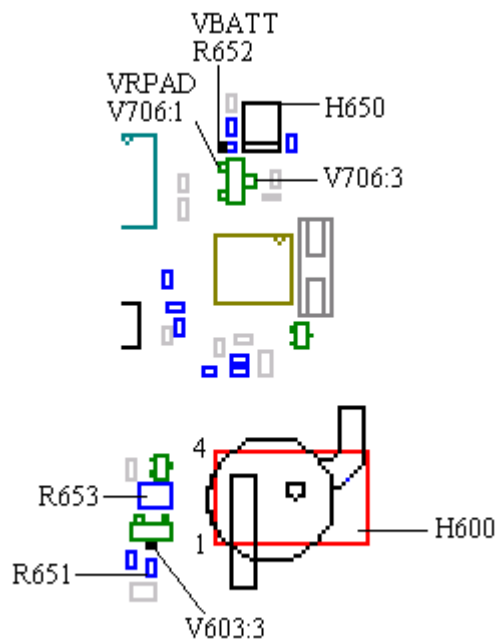
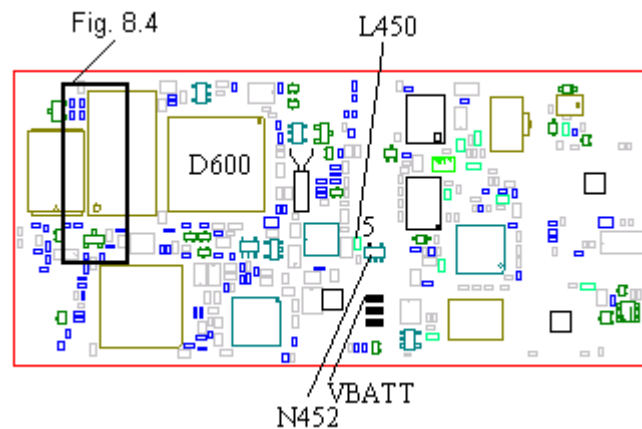

Fig. 8.2
Fig. 8.3
Make sure the buzzer (H600, class A, fig. 8.2) is correctly soldered.
Measure the voltage at H600 pad 4 (~3.4V, fig. 8.2).
- If the voltage at H600 pad 4 is missing, measure the VRPAD voltage (~3.8V) at V706 pin 1 (class A, fig. 8.2).
* If the voltage at V706 pin 1 is missing, check if there's VRPAD voltage at N452 pin 5 (fig. 8.3).
- * If the resistance is too high it’s probably the L450 (~0 ohms, class A, fig. 8.3) that’s faulty.
- * If the VRPAD voltage at V706 is correct, measure the resistance from VBATT to V706 pin 3 (~4.7 ohms, fig. 8.3 and 8.2).
- * If the resistance is too high it’s probably R652 (~4.7 ohms, class A, fig. 8.2) that’s faulty.
- If the voltage at pad 4 of H600 is correct, measure the resistance from H600 pad 1 to V606 pin 3 (~0 ohms, fig. 8.2).
- * If the resistance is too high it’s probably R653 (~0 ohms, class A, fig. 8.2) that’s faulty.
- * If the resistance is correct, make sure pin 91 of D600 (fig. 8.3) is correctly soldered.
- * If it is correctly soldered, replace R651 (class A, fig. 8.3) and V606 (class A, fig. 8.2).
- * If that doesn’t help, replace D600 (class B, fig. 8.3).
- * If the voltage is missing, make sure pin 92 of D600 (fig. 8.3) is correctly soldered.
Make sure the double LED (H650, class A, fig. 8.2) is correctly soldered.
Measure the voltage at pad 4 of H600 (~3.4V, fig. 8.2).
- If the voltage is missing, measure the VRPAD voltage (~3.8V) at pin 1 of V706 (class A, fig. 8.2).
- * If there's no voltage at pin 1 of V706, check if there's VRPAD voltage at pin 5 of N452 (fig. 8.3).
- * If the resistance is too high it's probably L450 (~0 ohms, class A, fig. 8.3) that's broken.
- * If the voltage at V706 pin 1 is correct, measure the resistance from VBATT to V706 pin 3 (~4.7 ohms, fig. 8.3 and 8.2).
- * If the resistance is too high it's probably R652 (~4.7 ohms, class A, fig. 8.2) that's faulty.
Measure the VRPAD voltage (~3.8V) at V706 pin 1 (class A, fig. 8.2).
- If the voltage is missing at V706, check if there's VRPAD voltage at pin 5 of N452 (fig. 8.3).
- * If the voltage at pin 5 of N452 is correct, check the resistance from N452 pin 5 to V706 pin 1 (~0 ohms, fig. 8.3 and 8.2).